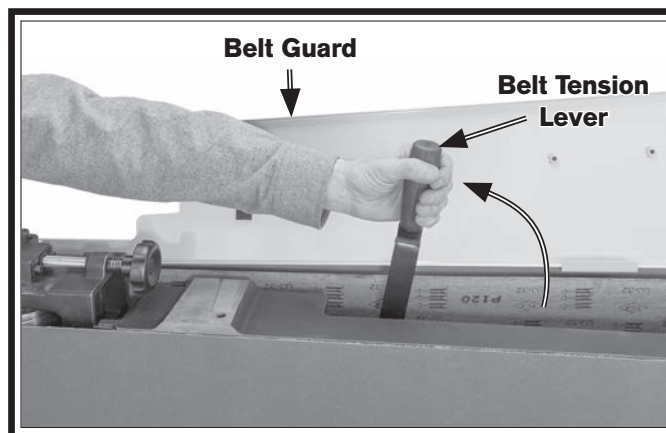

Figure 15. Belt guard open and belt tension lever moved up toward idler roller.
5. Open belt guard and move belt tension lever up and toward idler roller (see **Figure 15**).